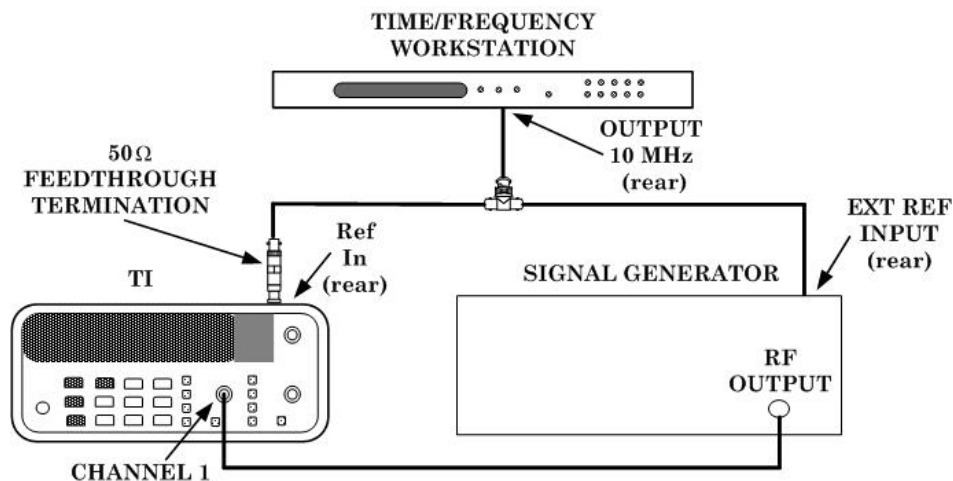

Figure 1. Equipment setup.
(1) Press and release TI **POWER ON/STBY** pushbutton to **STBY**.
(2) Press TI **POWER ON/STBY** pushbutton to **ON**.
(3) Connect equipment as shown in figure 1.